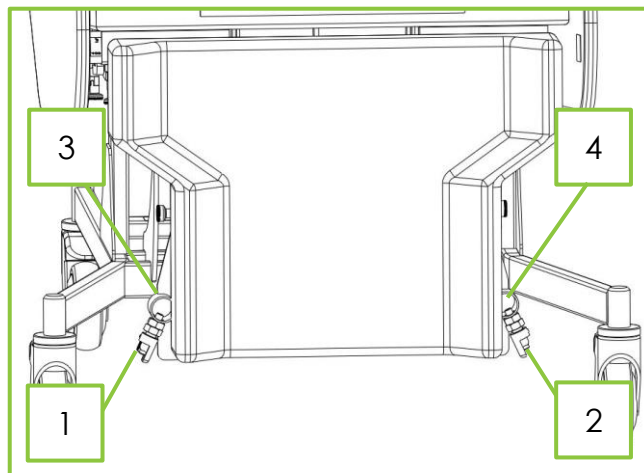
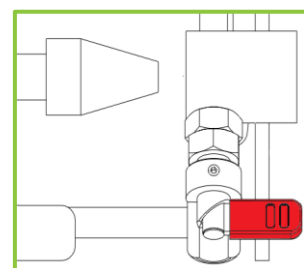
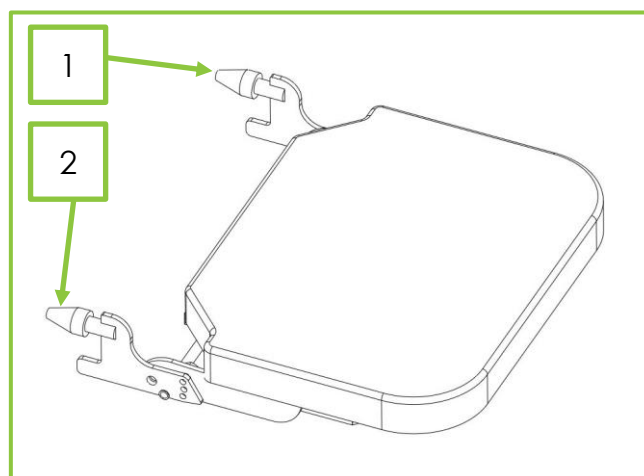

Figure 21
Figure 23 – Plunger Closed
Figure 24
1. Ensure that the plungers that secure the footplate (Fig 21, Items 1&2) are in the closed position (Fig 23).
2. Take the footplate (Fig 24) and insert the two tapered spigots (Fig 24, Items 1&2) into the two sockets either side of the footplate height adjustment frame (Fig 21, Items 3&4). Push the footplate into the tubes until the plungers latch with an audible click.
1. Locate the plungers that secure the footplate either side of the leg rest, at the bottom of the footplate height adjustment frame (Fig 21, Items 1&2).